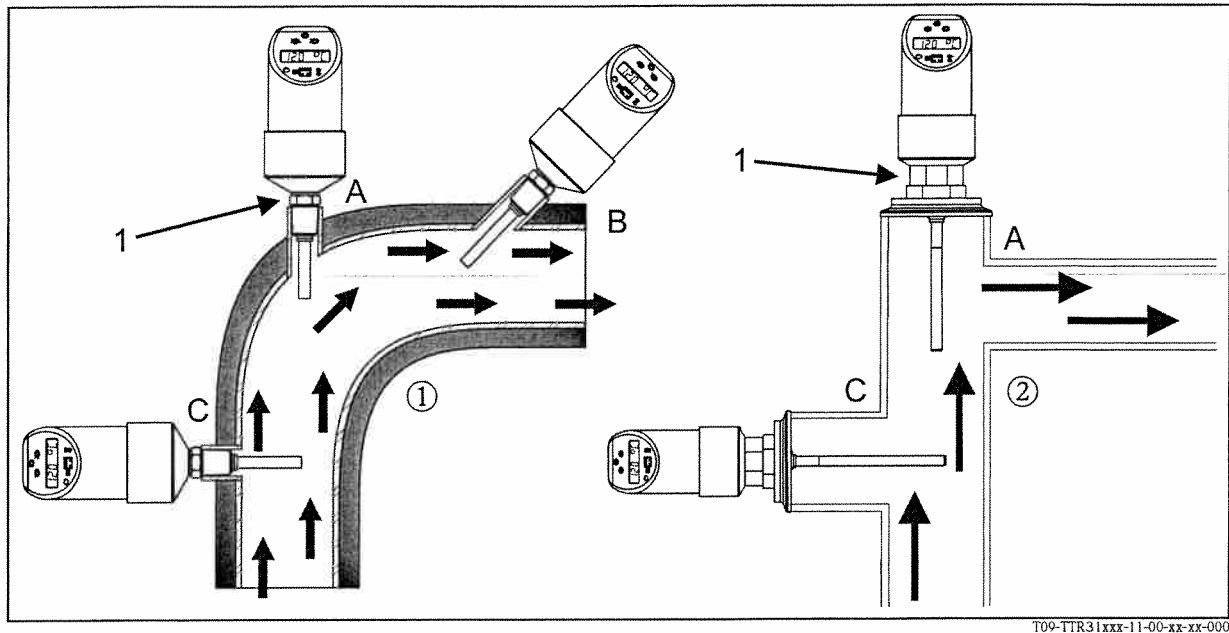

Fig. 4: Possible installation options for temperature monitoring in pipes
- Installation at angle pieces, against the direction of flow (→ Fig. 4, Item A).
- Installation in smaller pipes, inclined against the direction of flow (→ Fig. 4, Item B).
- Installation vertical to the direction of flow (→ Fig. 4, Item C).
Do no thread into process connection by turning housing. Always use a wrench (see table, → Chap. 3.3) on the process connection fluts (→ Fig. 4, Pos. 1) to tighten the sensor into the process connection.